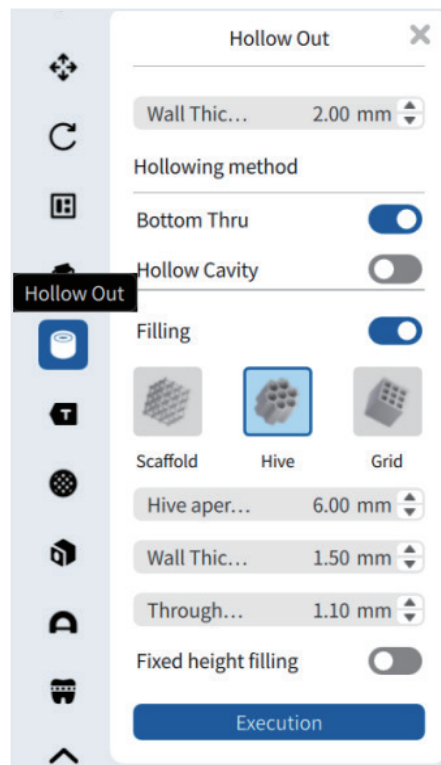

Figure 7
- ① After selecting all restorations, in the function column on the left side of the slicing software, select the "Hollow Out" function card, set the corresponding hollowing parameters, and the parameters are as shown in Figure 7;